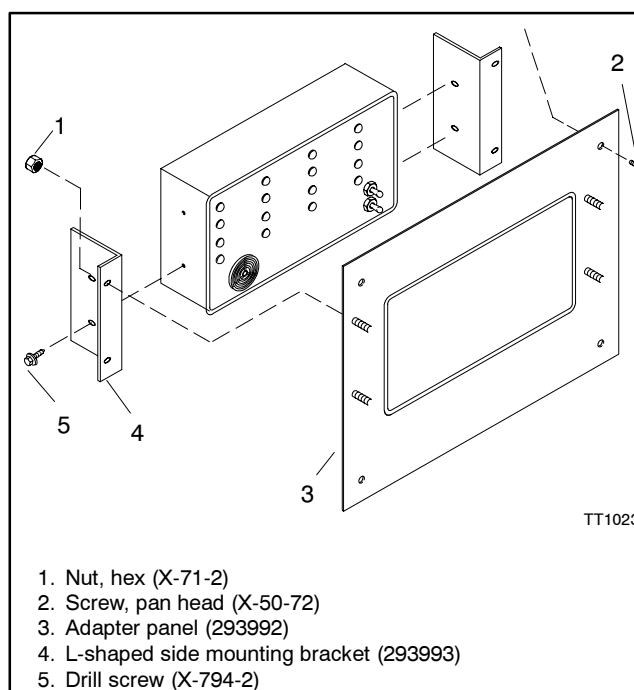

Figure 11 Flush-Mount Remote Annunciator Installation
- 6.3.1 Reassemble the front panel to the back panel using two drill screws (X-794-2). See Figure 11.